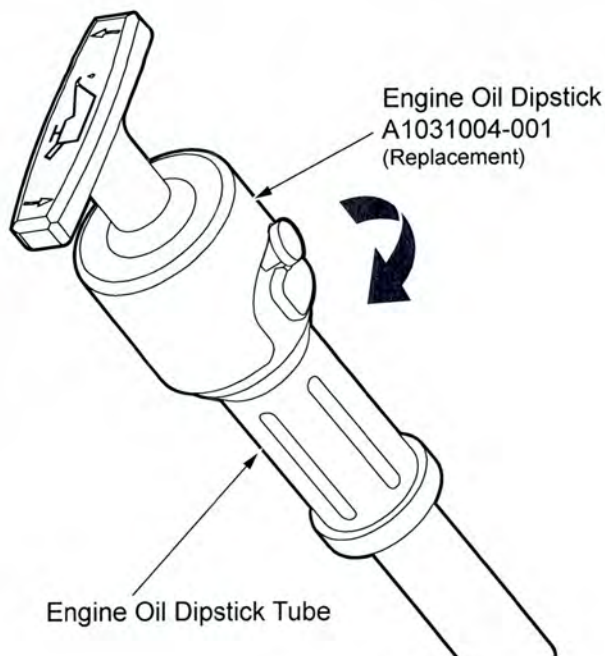

Figure 6
10. Install the new engine oil dipstick (A1031004-001) into the engine oil dipstick tube and twist clockwise to lock in place (see Figure 6).